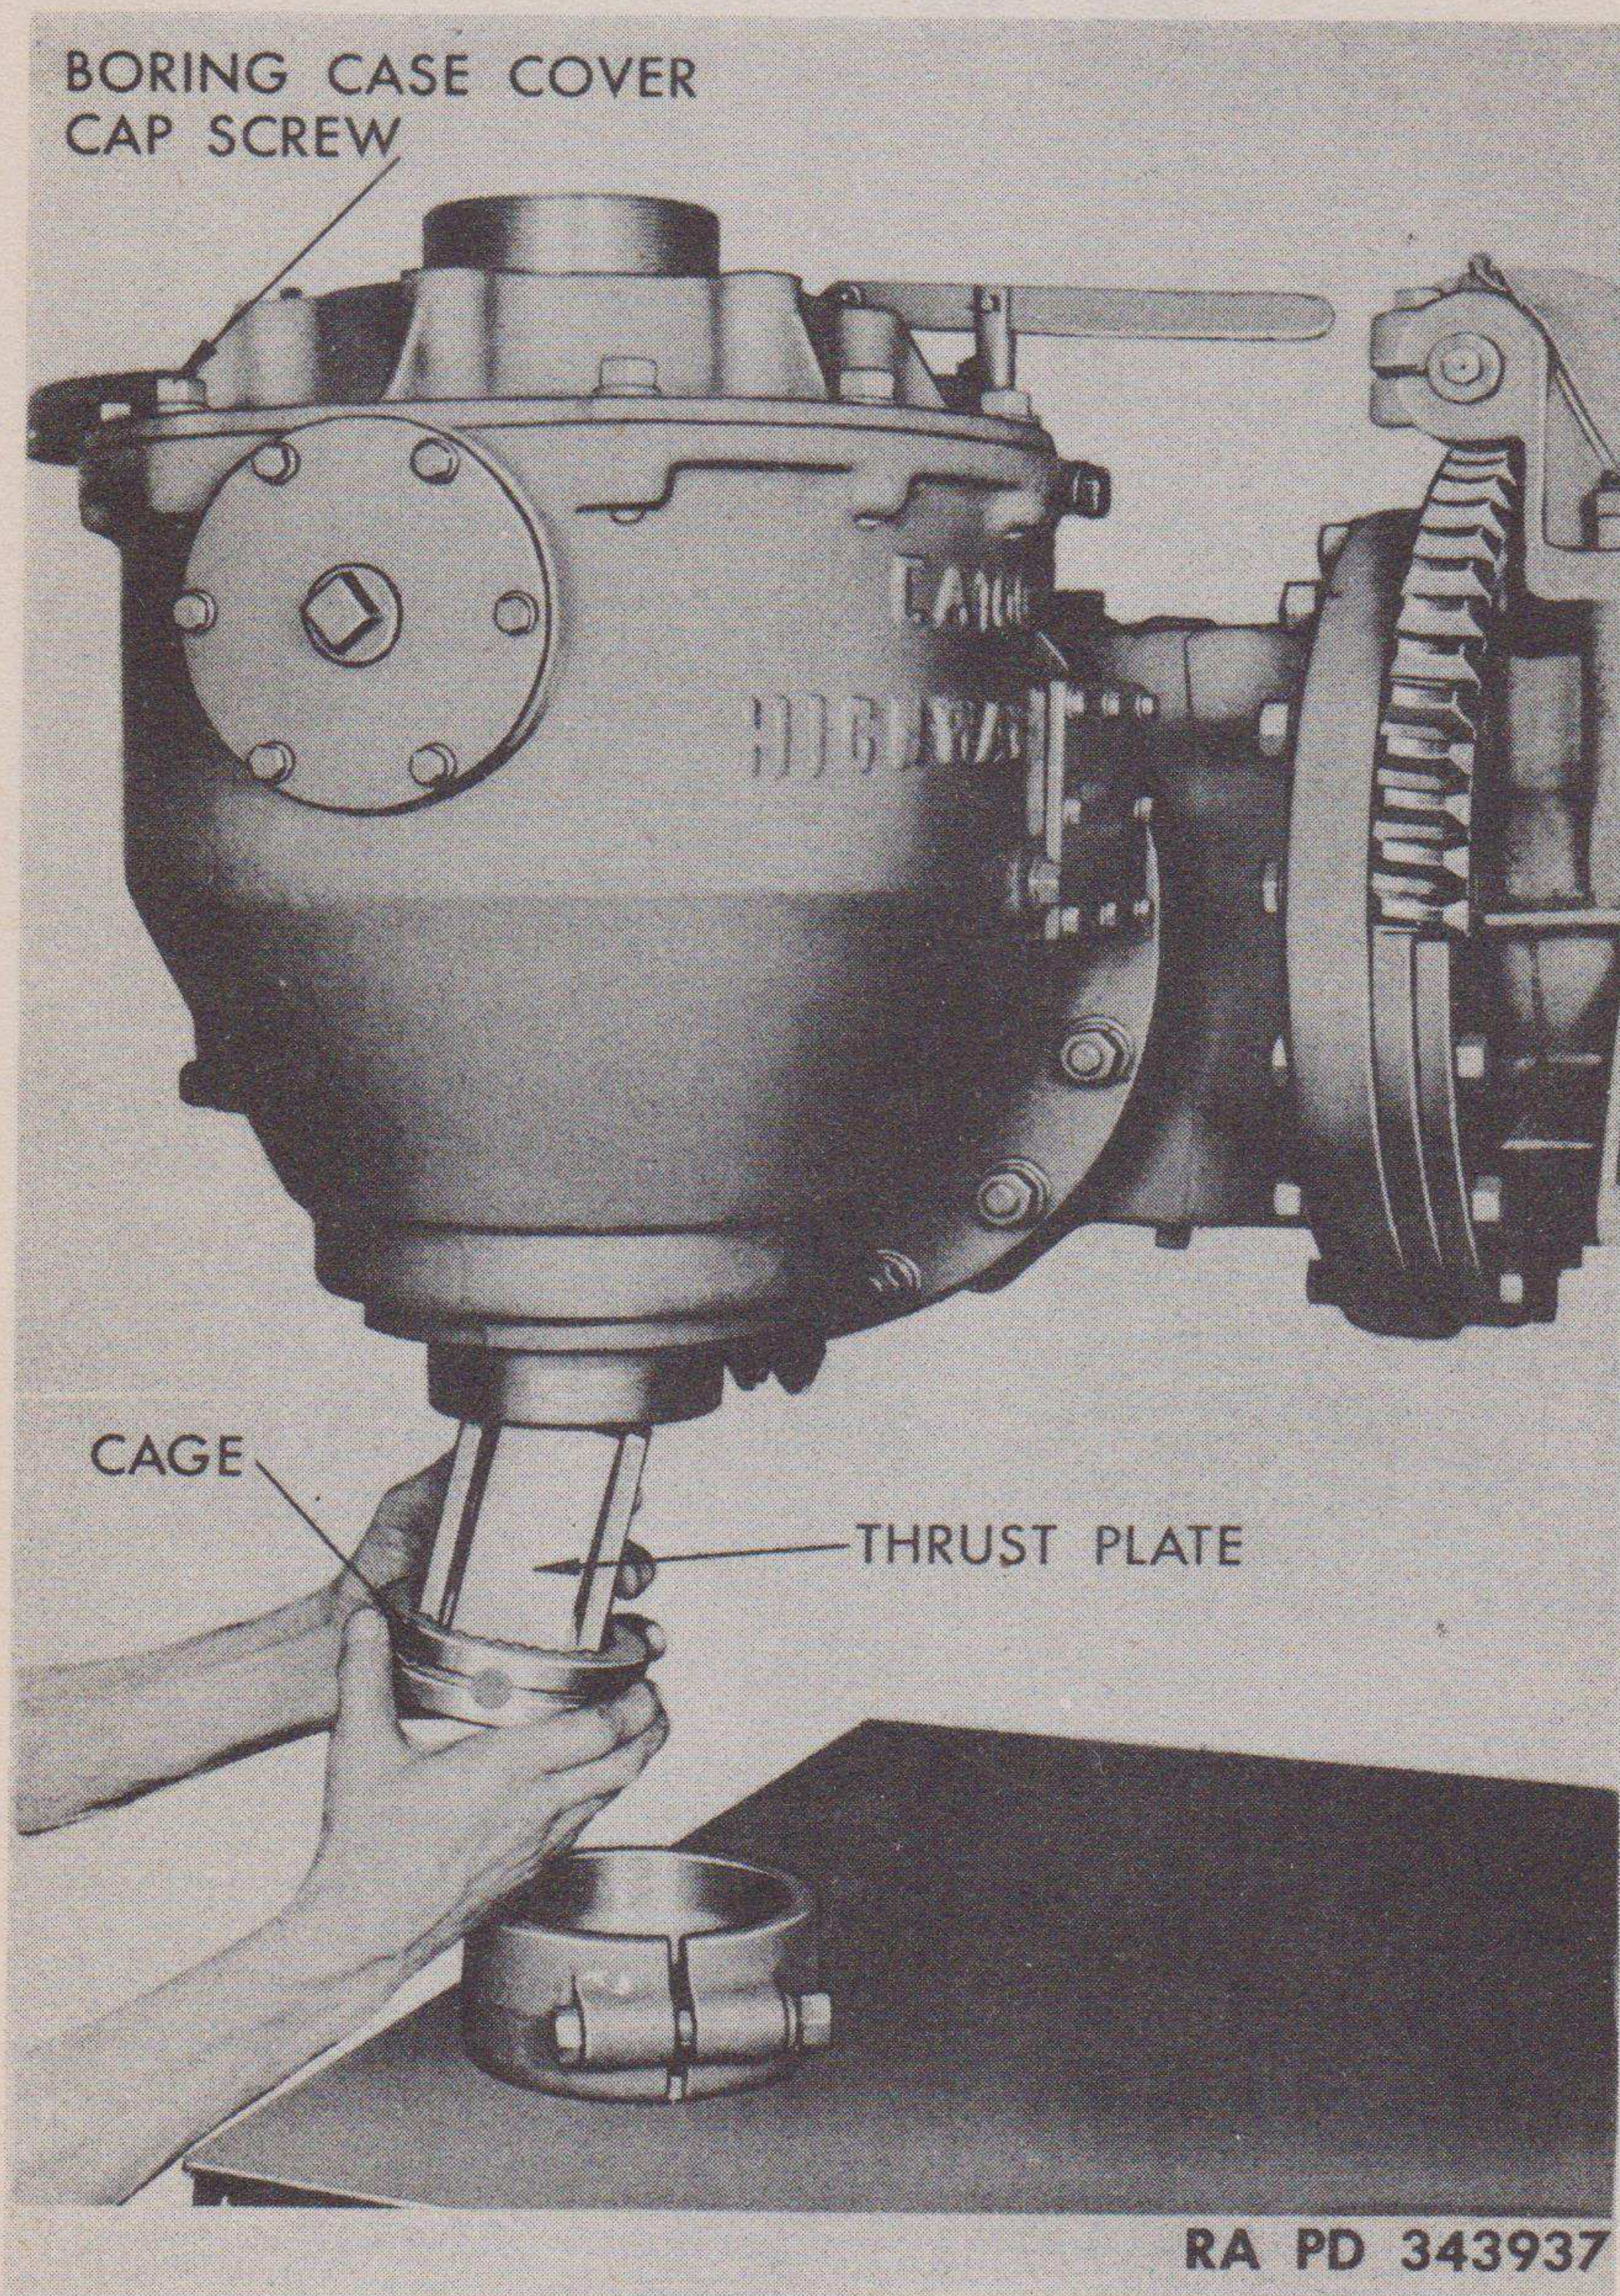
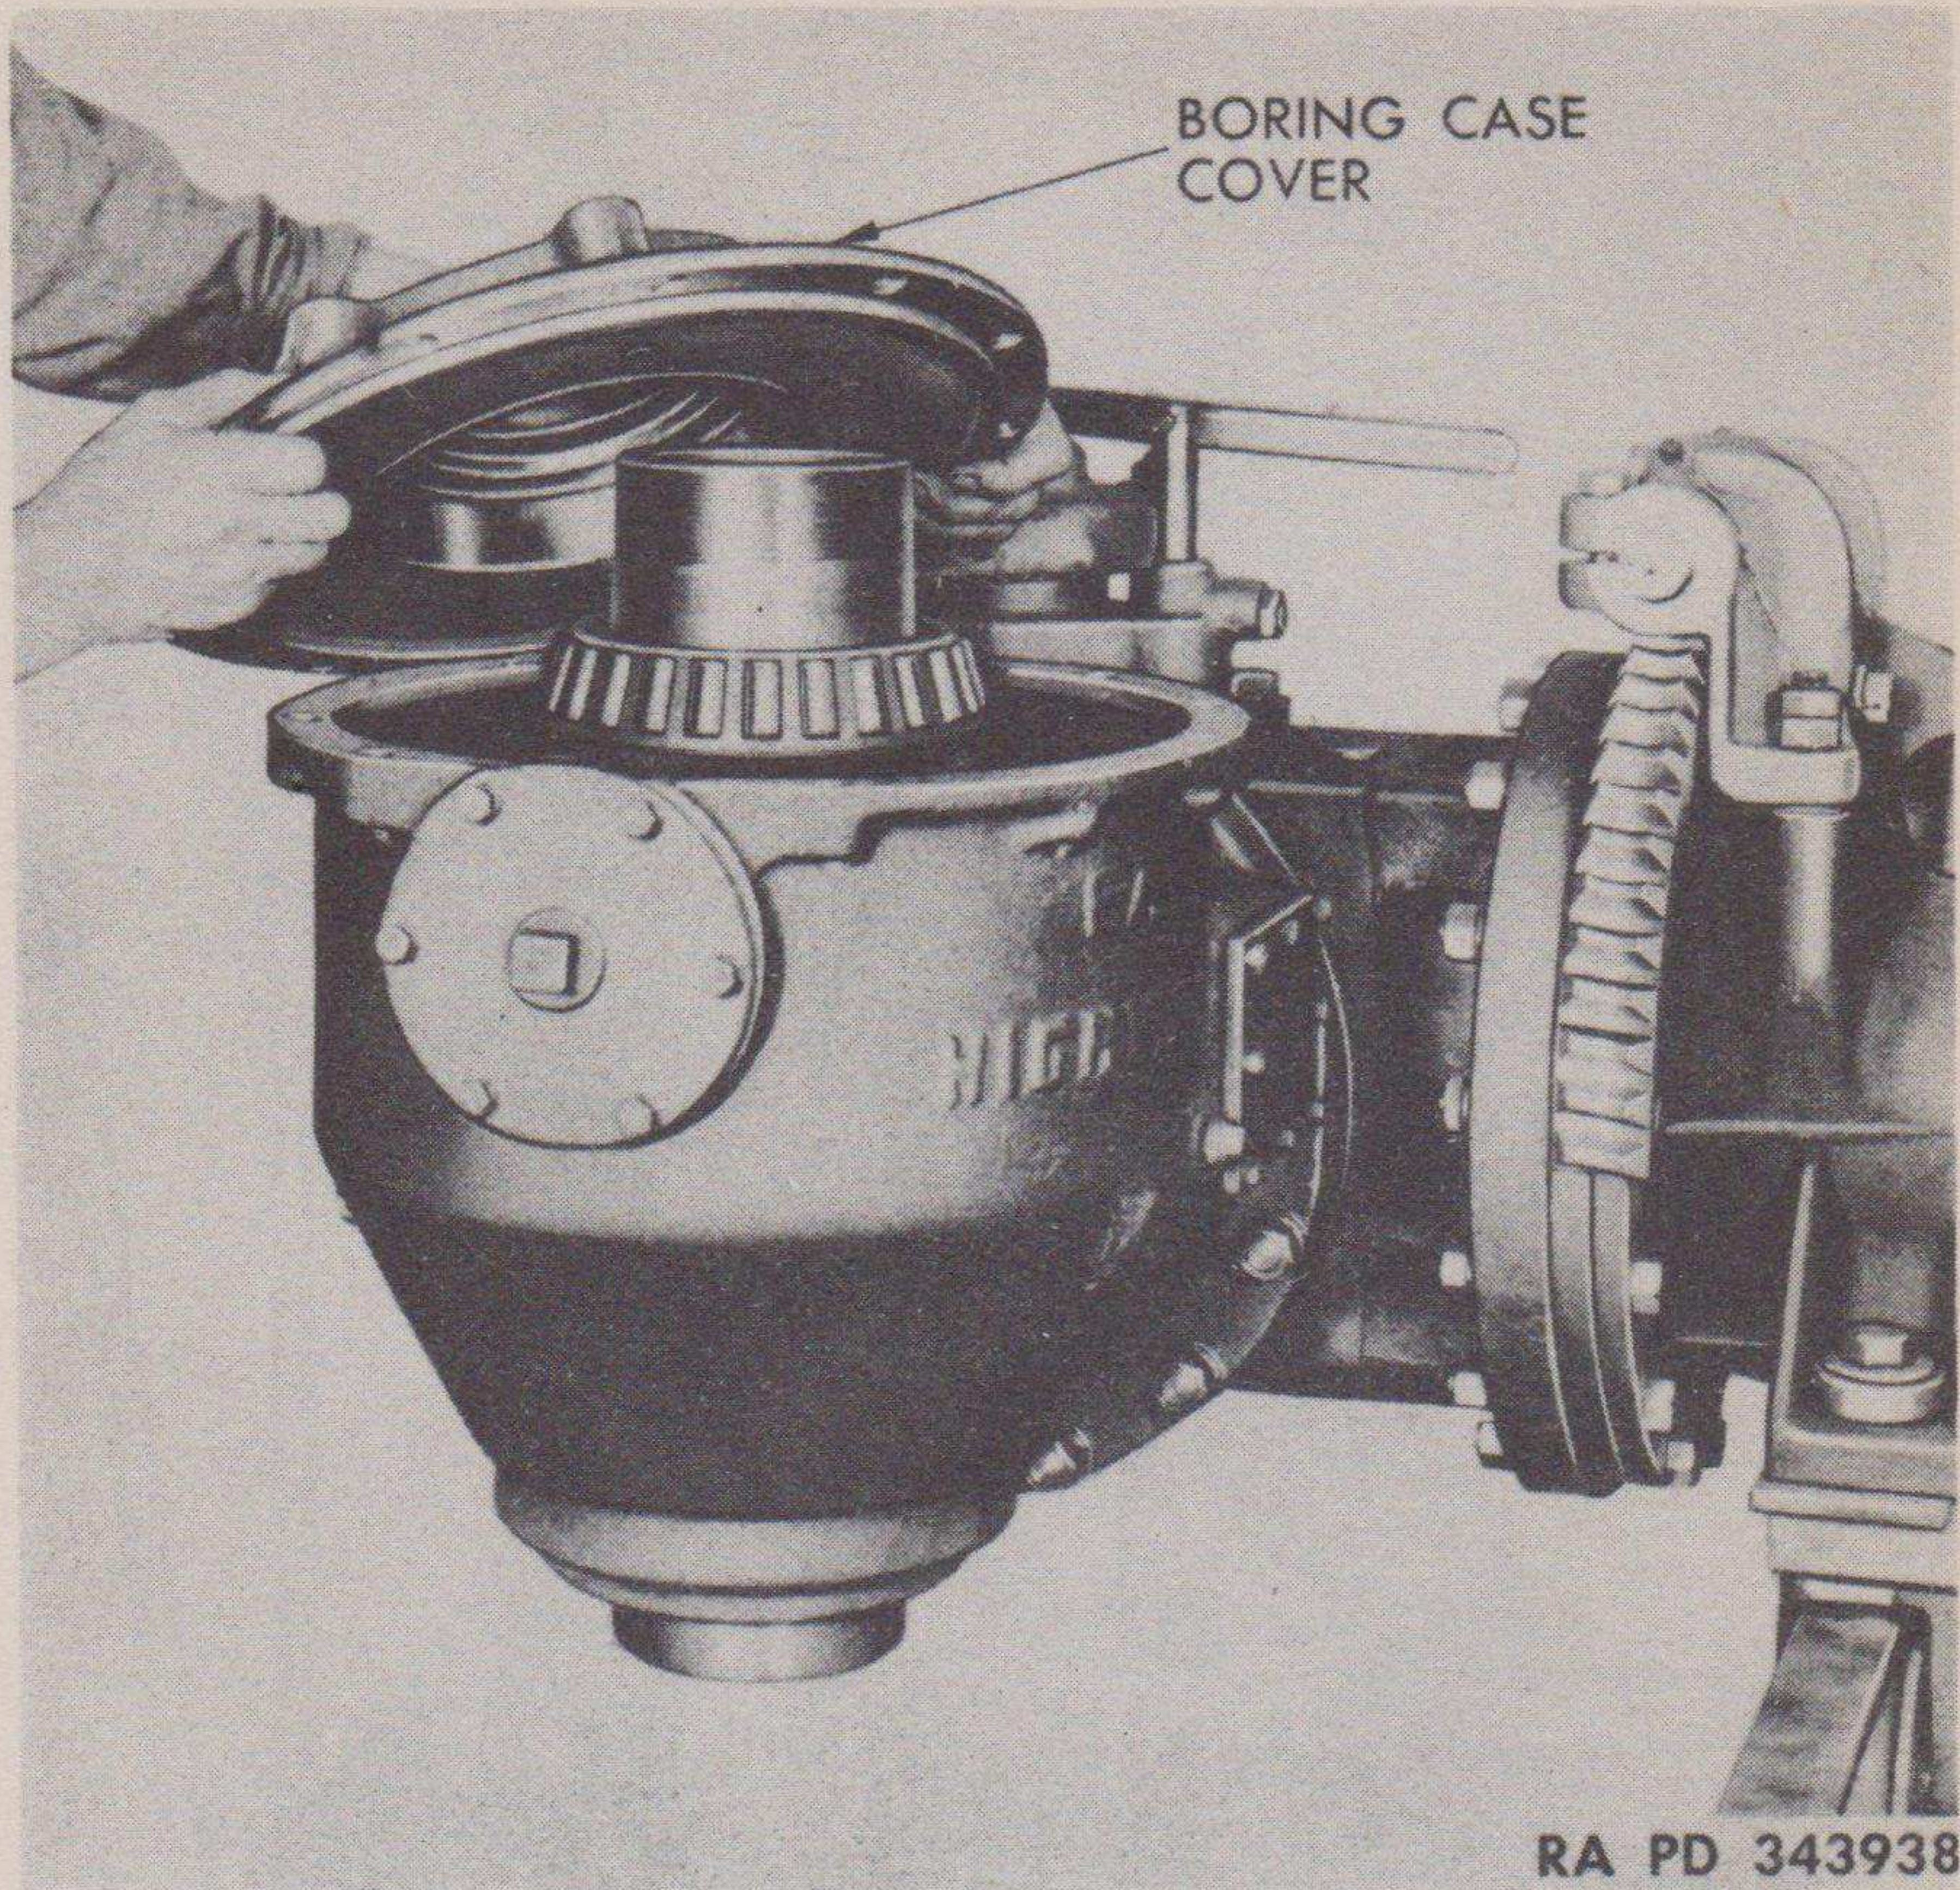
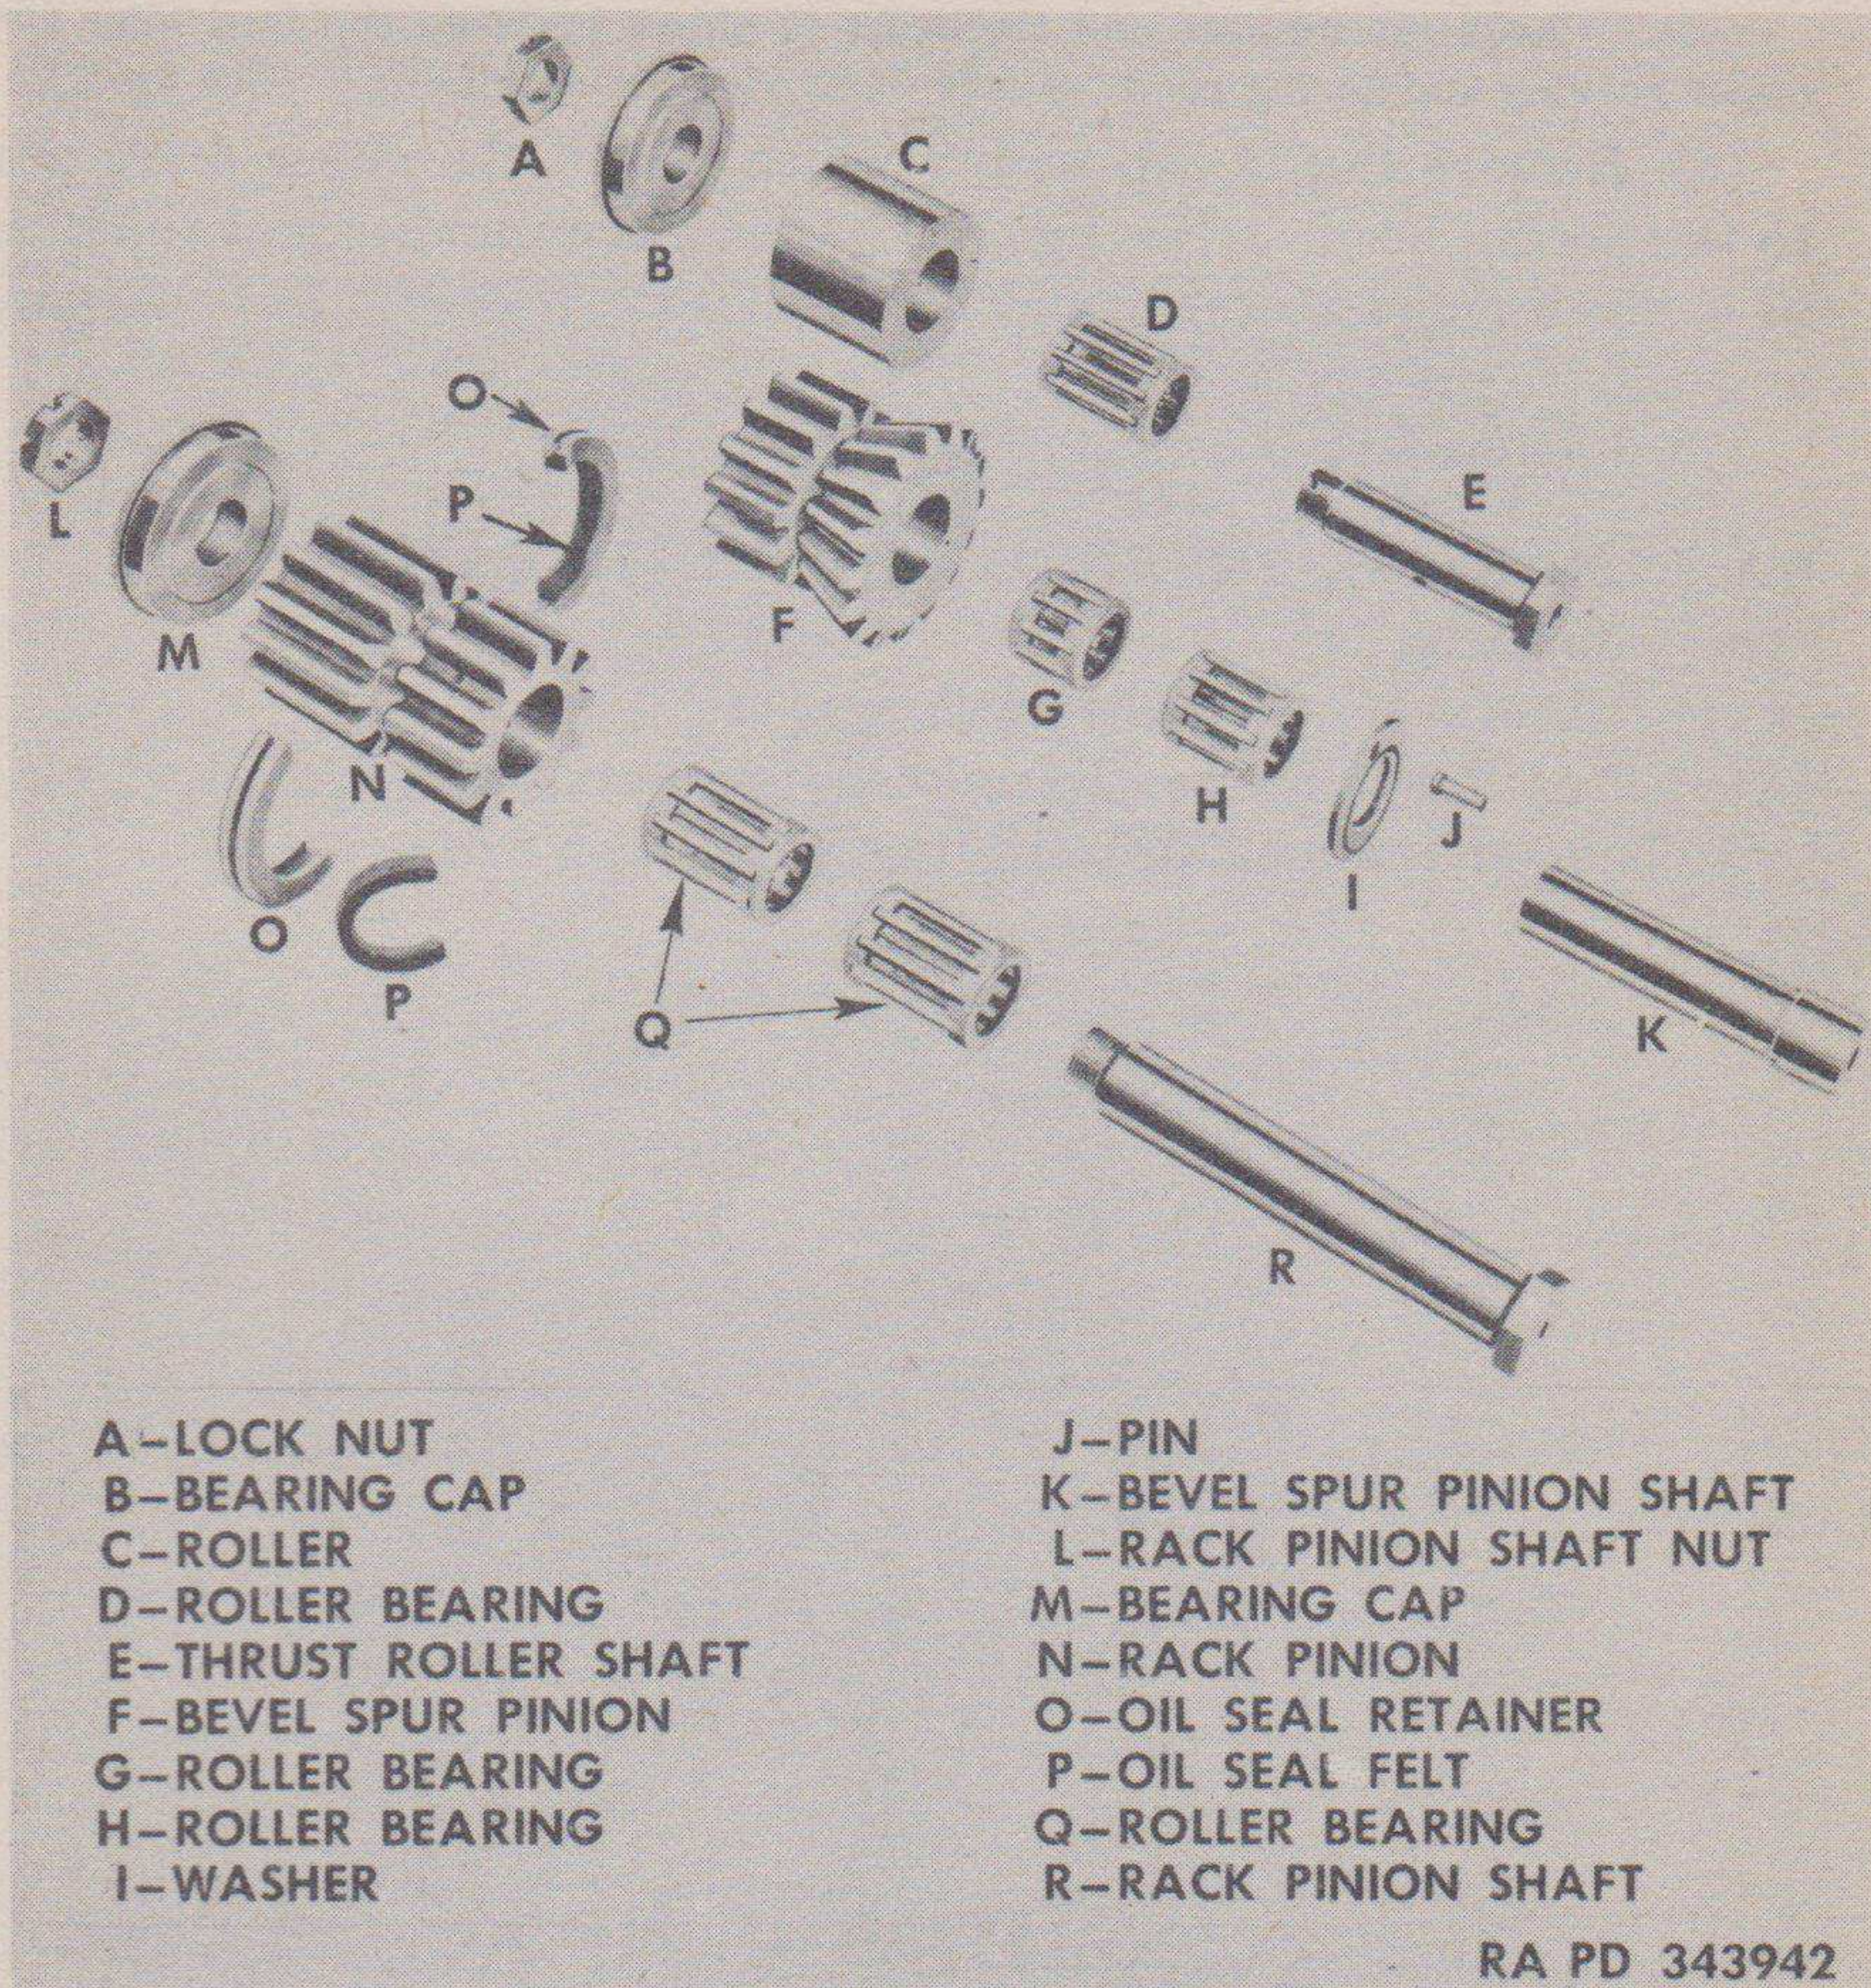
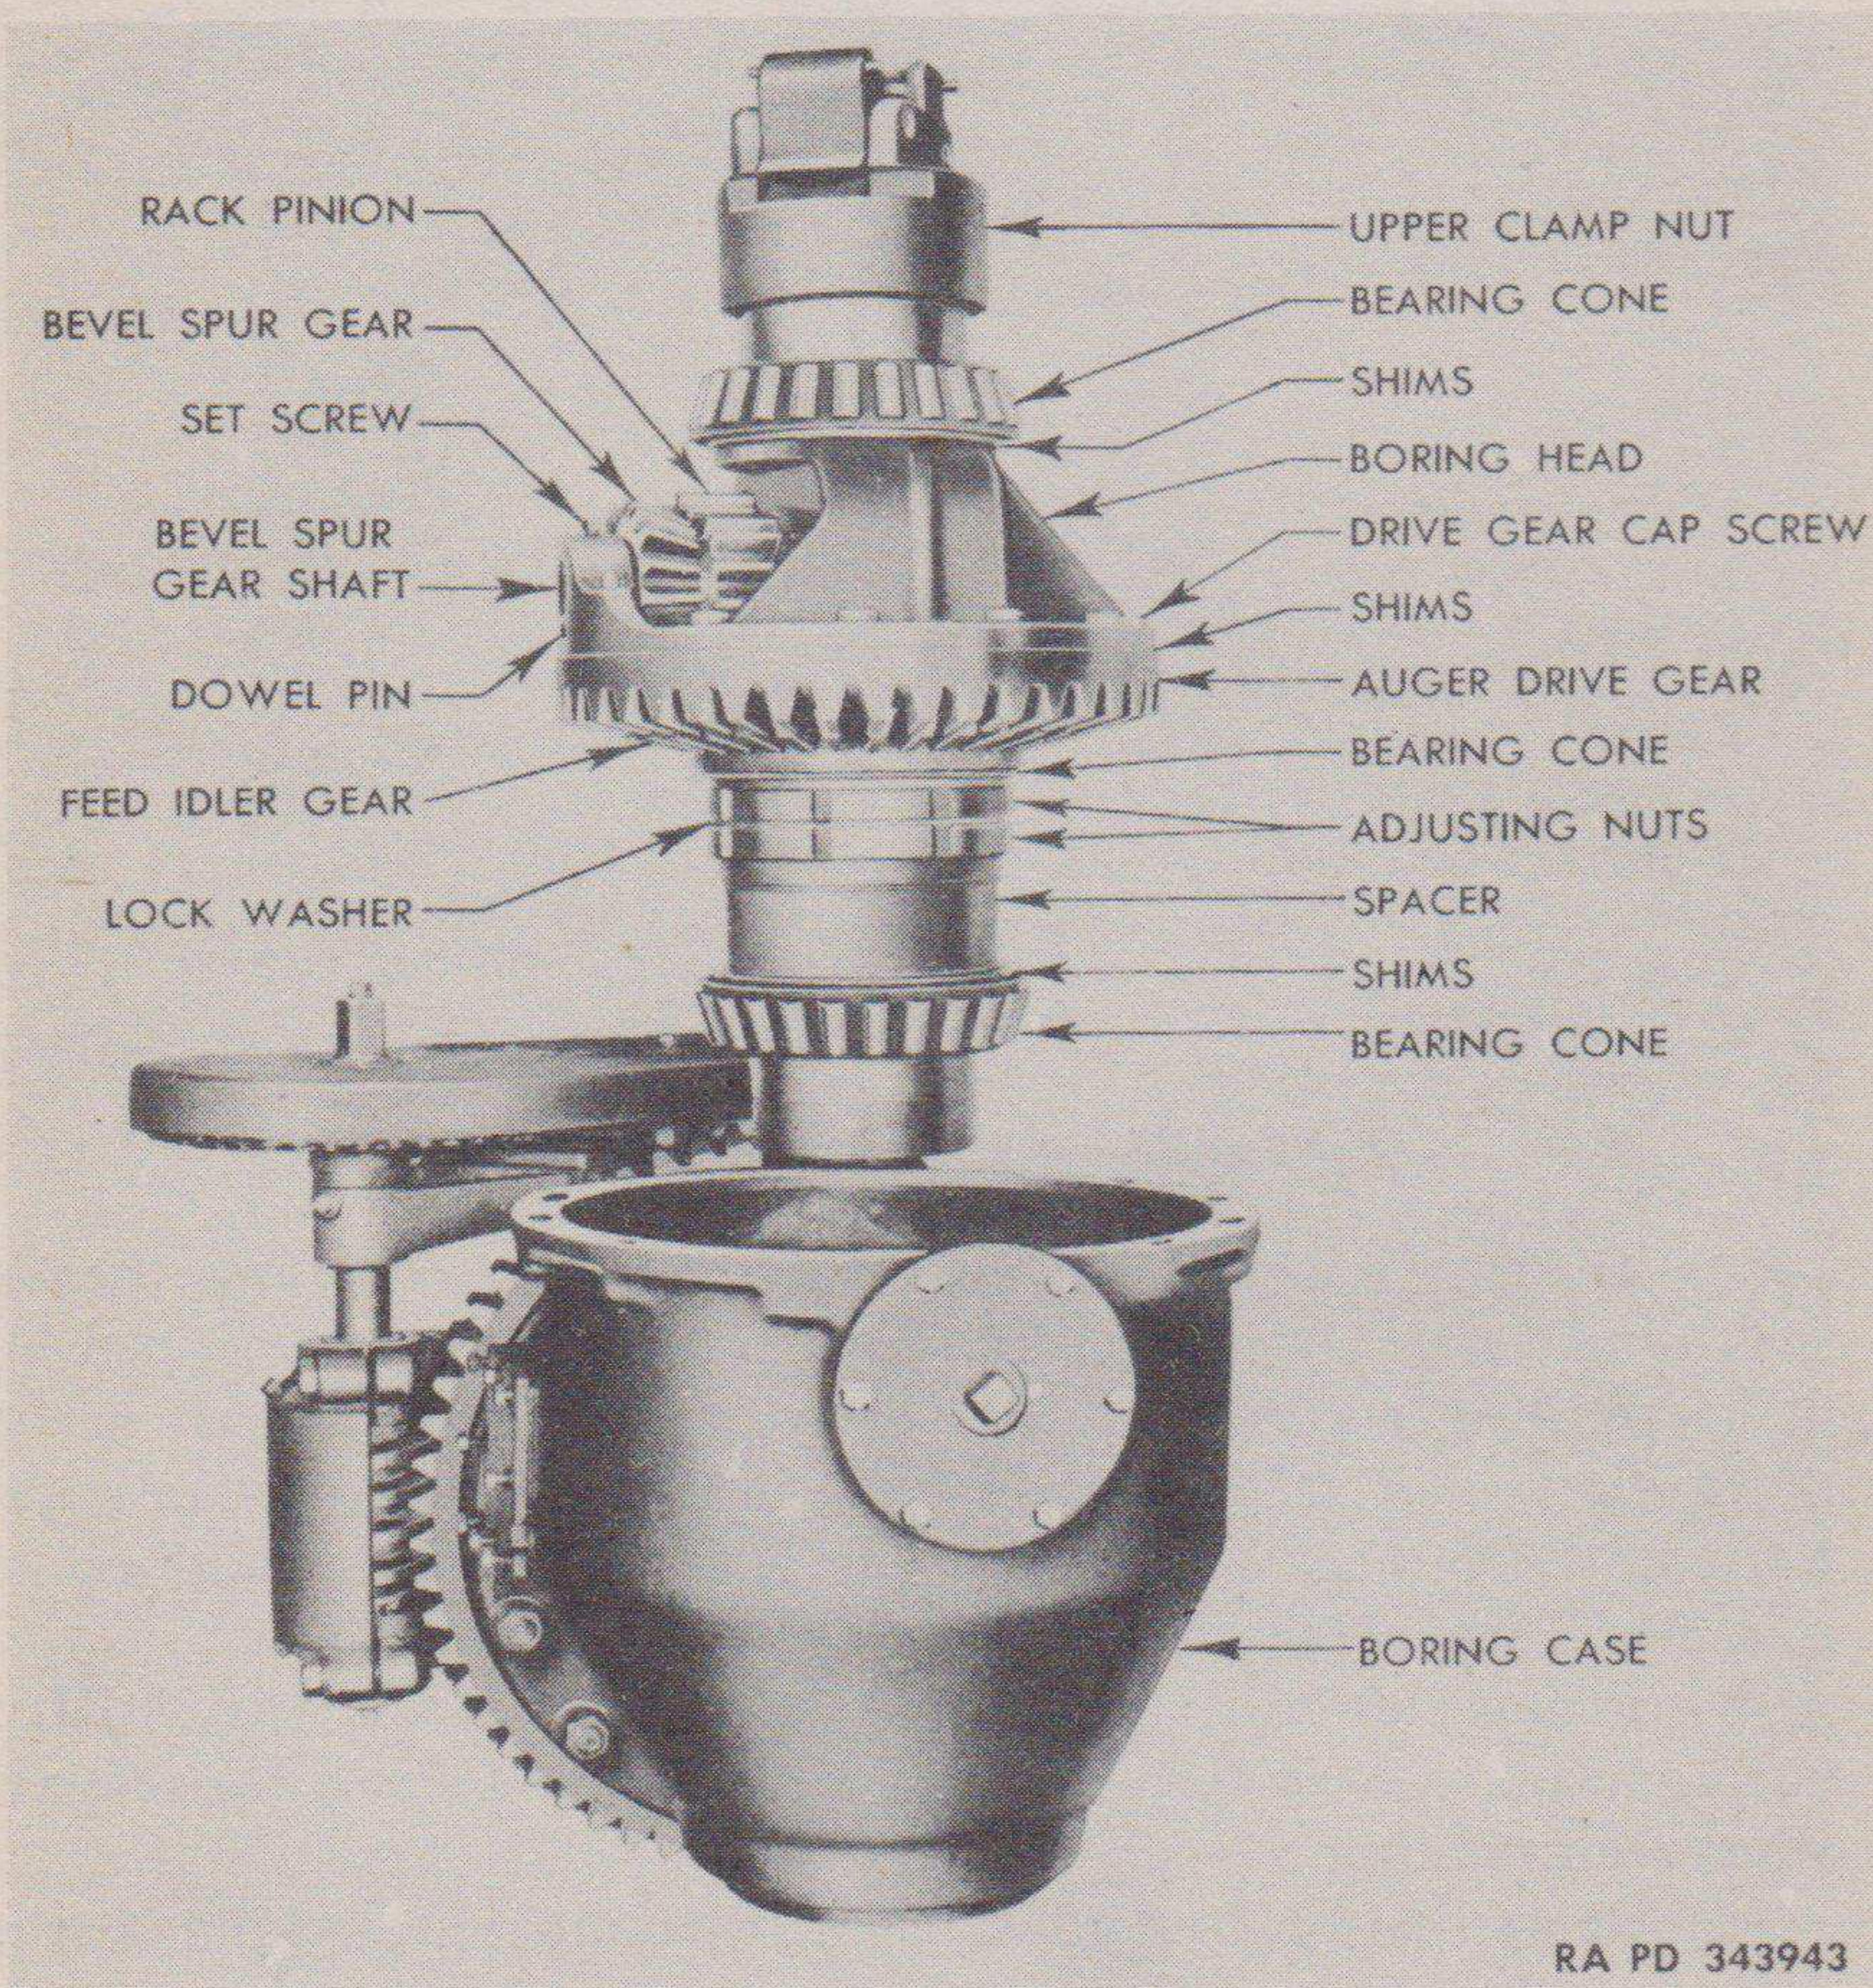

Figure 76—Removing Lower Thrust Plates and Cage
Figure 77—Removing Boring Case Cover
Figure 81—Rack Pinion Assemblies
Figure 82—Boring Head Assembly Removed From Case
(6) **LOWER THRUST PLATES AND CAGE** (fig. 76). Drop cage and plates from end of boring head.
(7) **BORING CASE COVER** (fig. 77). Remove boring case cover cap screws (fig. 76), and lift cover off boring case.
(3) To remove rack pinion loosen felt retainer set screw. Remove rack pinion shaft nut. Turn a $\frac{3}{8}$ -24 thread screw into tapped hole in bearing cap and remove the bearing cap. Using a drift or bar, drive the pinion from the end opposite the bearing cap until rack pinion felt retainer (fig. 81) is clear of the housing, and remove retainer. Remove pinion shaft, rack pinion, and bearings.
(5) When proper mesh has been obtained, remove assembly from case and install the balance of the gear attaching screws. Tighten cap screws securely and lock them with tie wire.
(6) Install shims and upper bearing cone in boring head. (See fig. 82.) Reinstall boring head in case, and assemble boring case cover (fig. 77) with three cap screws equally spaced to determine the adjustment of upper boring head bearing cone. There should be no end play of the boring head assembly in the boring case. However, do not adjust so snugly as to cause injury to the bearing cones. If necessary to make adjustments, add or remove upper bearing shims (fig. 81) to eliminate end play. Remove boring head from case for further subassembly.
(7) Assemble rack pinion shaft on boring head, and install rack pinion bearings and rack pinion in position to assemble felt retainers, then drive rack pinion into its operating position. Install bearing cap on end of rack pinion shaft; assemble rack pinion shaft nut and secure with cotter pin. Tighten felt retainer set screw.
(8) Assemble bevel spur pinion, bearings, washer, and pin in position (fig. 81) and through thrust roller bearing cap opening drive shaft into position, securing bevel spur pinion. Assemble cone point lock screw to secure shaft.
(2) **BORING CASE COVER.** Install boring case cover (fig. 77) and secure with cap screws.
(3) **UPPER OIL SEAL.** Install oil seal in upper end of boring case as outlined in a (10) above.
(4) **LOWER OIL SEAL.** Install oil seal in lower end of boring case as outlined in a (10) above.
(5) **LOWER THRUST PLATES AND CAGE.** Install lower thrust plates and cage. (See fig. 76.)